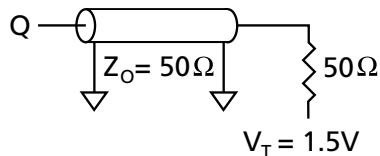
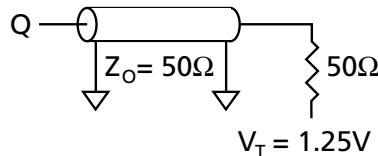

Figure 1
Figure 3
3. Test conditions as specified with output loading as shown in Figure 1 for 3.3V I/O ($V_{DDQ} = +3.3V \pm 0.165V$) and Figure 3 for 2.5V I/O ($V_{DDQ} = +2.5V \pm 0.4V/-0.125V$).
Output load	See Figures 1 and 2
Output load	See Figures 3 and 4